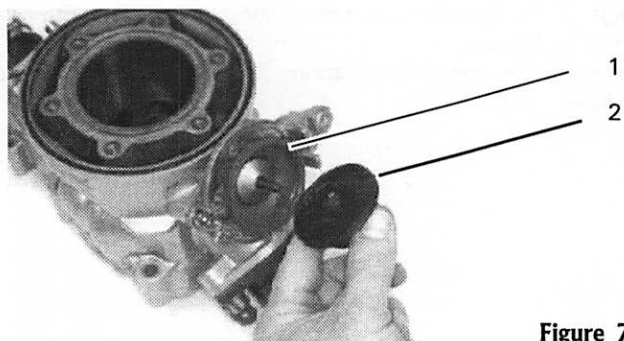

Figure 76
6. Slide the boot (1, Figure 76) over the valve rod housing. Seat the boot shoulder into the housing groove.